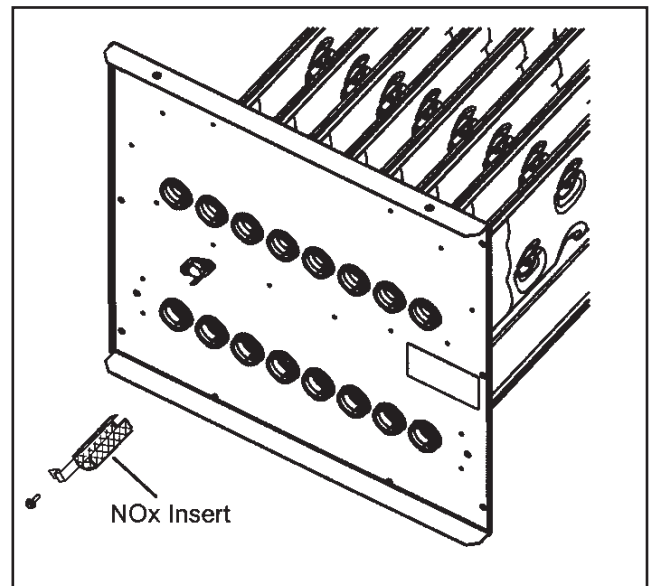

Figure 41. NOx Inserts
4. To clean burners, run a vacuum cleaner with a soft brush attachment over the face of burners. Visually inspect inside the burners and crossovers for any blockage caused by foreign matter. Remove any blockage. Figure 41 shows burner detail.
7. NOX units only - Remove screw securing NOX insert. Remove NOX insert. See Figure 41.